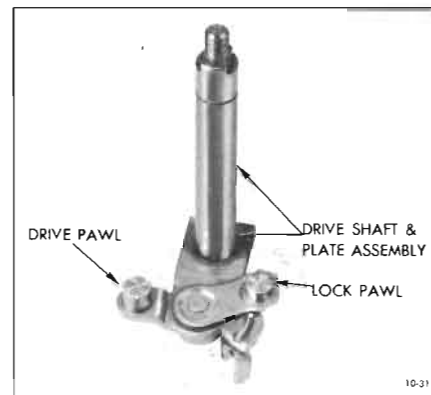

Figure 10-31—Assembling Lock Pawl Over Drive Pawl
2. Assemble lock pawl over pawl as shown in Figure 10-31.